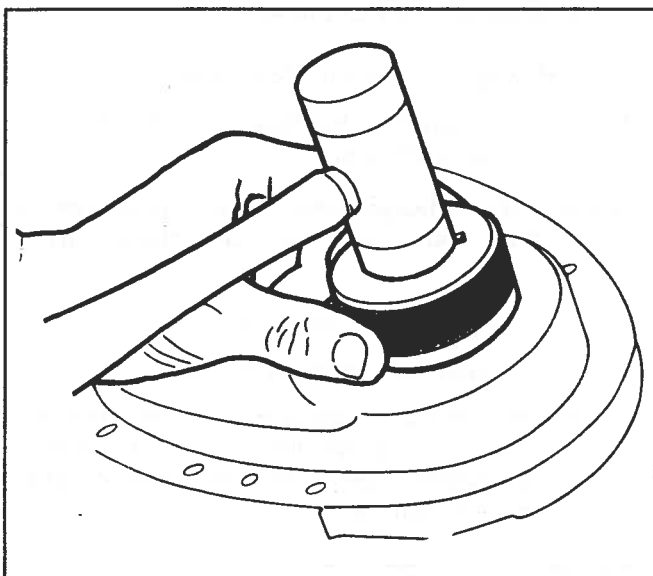

Figure 8-146. *Installing Front-Cover Oil Seal With Cover Removed*
2. Using tool J-35468, install oil seal in cover with lip of seal toward inside of engine. Support cover around seal area with appropriate tool as shown in Figure 8-146.